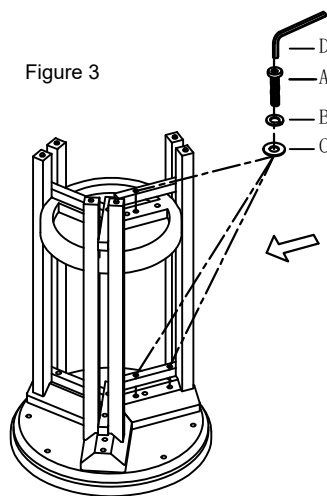

Figure 3
Step 3. Tighten Bolt (A) with Flat Washer (C)+Lock Washer (B) by Allen Wrench (D) as shown in Figure 3.